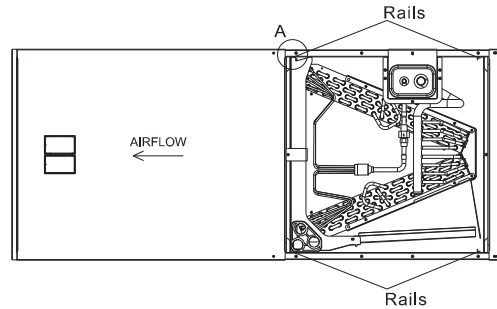

Fig.10 VERTICAL DOWNFLOW & HORIZONTAL LEFT APPLICATIONS
A vertical upflow unit may be converted to vertical downflow. See Fig.10.
- 1) Rotate unit into the downflow position, with the coil compartment on top and the blower compartment on bottom. See Fig. 10.
- 2) Reinstall the indoor coil 180° from original position. Ensure the retaining channel is fully engaged with the coil rail. See Fig. 10.